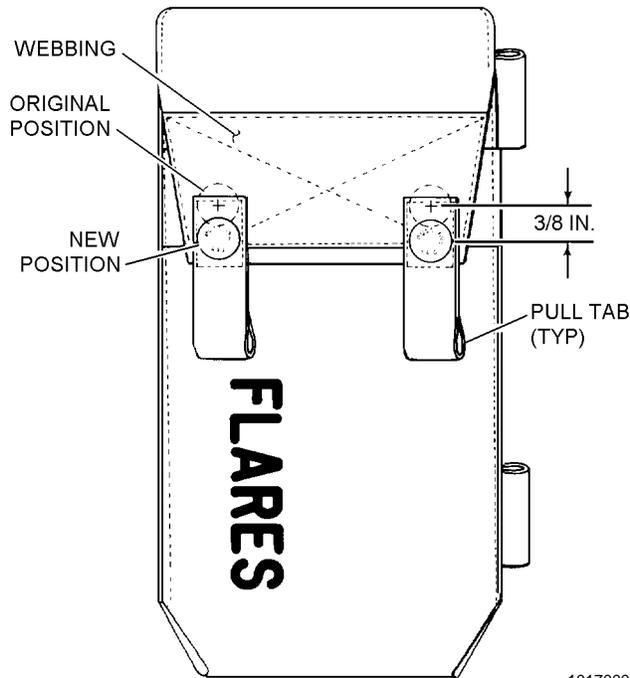

Figure 17-7. Flare Pouch Repair
2. Position MIL-W-4008 Type VIII webbing on outside surface of pouch flap. Cut and sear webbing ends to match contour of flap end. Boxstitch webbing to flap using size E nylon thread (V-T-295). See figure 17-7.